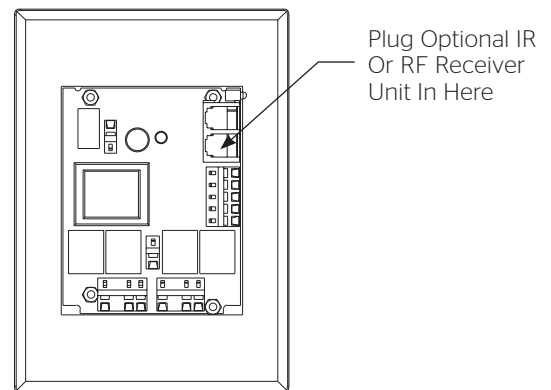

Figure 14
1. Attach the receiver adjacent to the DMC. Route the receiver wire into the DMC and plug it into the onboard socket. Refer to Figure 14.
1. Attach the receiver in a location visible from where the screen will be operated and away from fluorescent lights. Route the receiver wire into the DMC and plug it into the onboard socket. Refer to Figure 14.